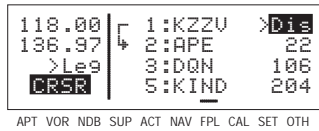

Figure 4-45
This display will default to the distance presentation at power-on (figure 4-45). The area in the upper right hand corner of the screen is a cyclic field, which means that . . .
1. Turn on the cursor (**CRSR**); it will come up over the cyclic field, which in this case is displaying distance (**Dis**) in nautical miles (figure 4-45).